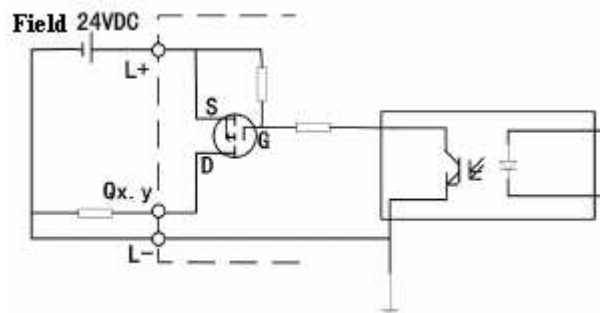

Figure 3-1-7 LM3220 DO Channel Equivalent Circuit
- DO channel equivalent circuit is shown in Figure 3-1-7.
- Output channel (DO) equivalent circuit is shown in Figure 3-1-7.